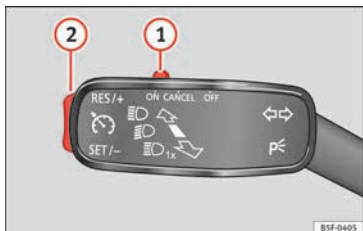

Fig. 39 See position on page 7-8
- Switching on the CCS: Move switch » Fig. 39 ① to **ON**. The system is on. If no speed has been programmed, the system will not control it.
- Activating the CCS: Press button » Fig. 39 ② in the **SET/-** area. The current speed is memorised and controlled.
- Temporarily switching off the CCS: Move switch » Fig. 39 ① to **CANCEL** or push the brake. The cruise control system is switched off temporarily.
- Reactivating the CCS: Press button » Fig. 39 ② in **RES/+**. The memorised speed is saved and controlled again.
- Increasing stored speed during CCS regulation: press button ② in **RES/+**. The vehicle accelerates until the new stored speed.
- Reducing stored speed during CCS regulation: press button ② in **SET/-** to lower the speed by 1 km/h (1 mph). Speed is reduced until reaching the new stored speed.
- Switching off the CCS: Move switch » Fig. 39 ① to **OFF**. The system is disconnected and the memorised speed is deleted.